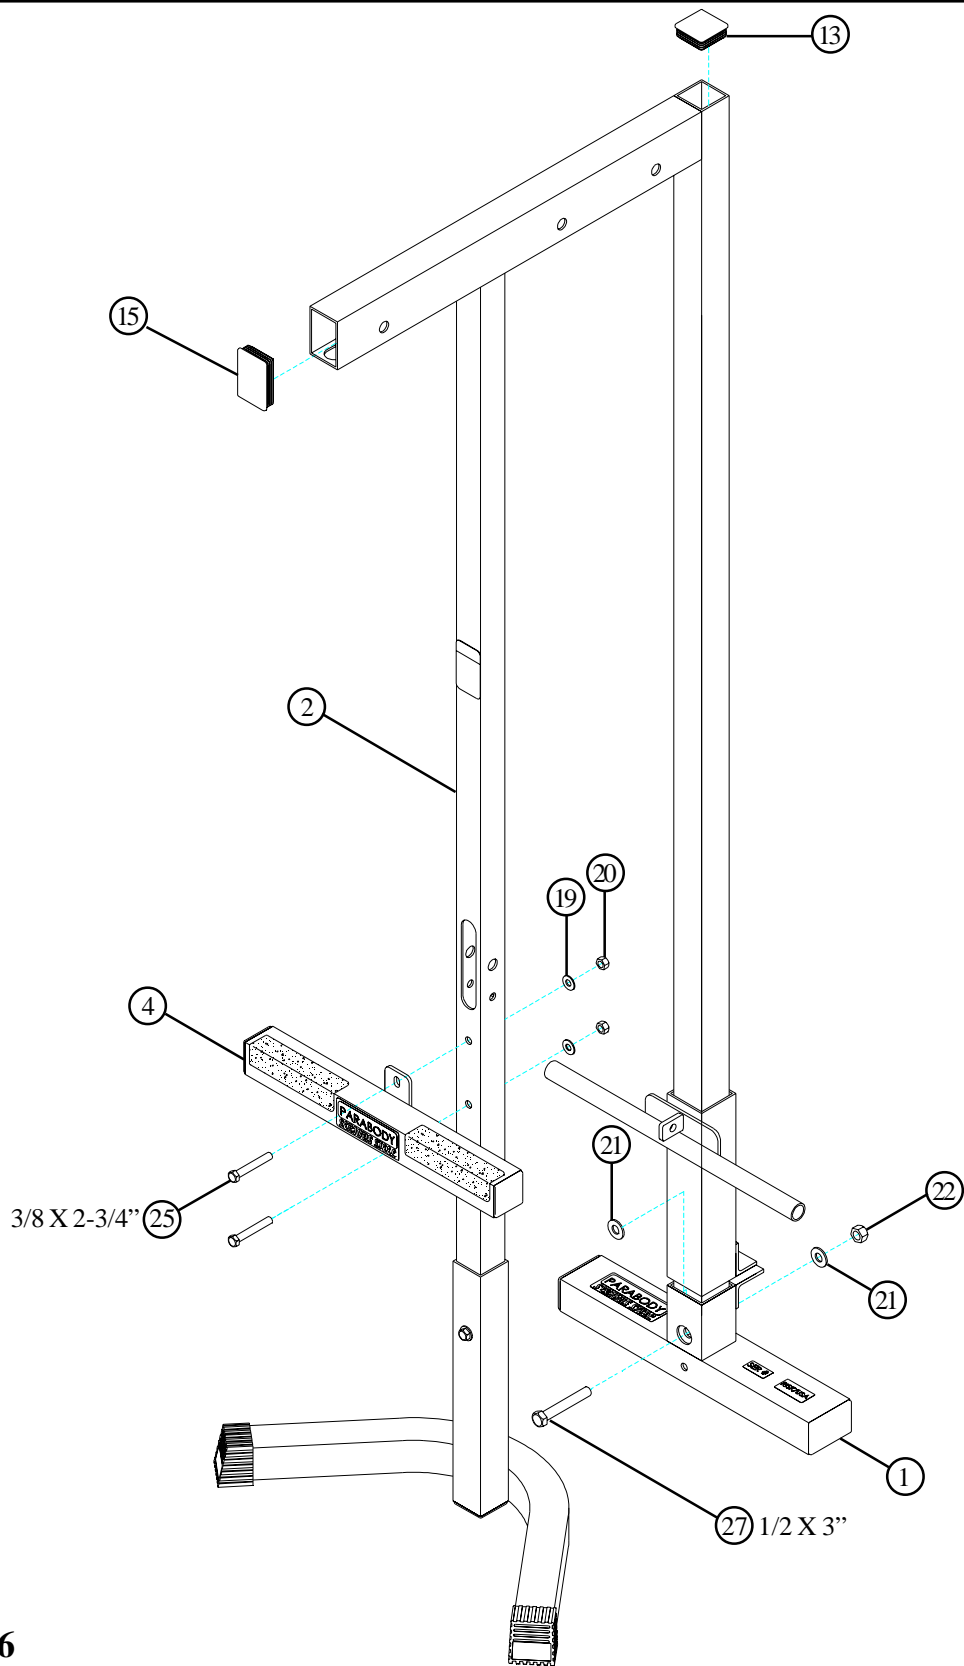

FIGURE 6
- **SECURELY** assemble the BASE (1) to the UPRIGHT (2) using one 1/2 X 3" BOLT (27), two 1/2" WASHERS (21) (slide front washer **INSIDE** of tube), and one 1/2" LOCK NUT (22). See FIGURE 6.
- Insert one 3 X 2" END CAP (15) and one 2" SQ. END CAP (13) into the ends of the UPRIGHT (2) as shown in FIGURE 6.
- **SECURELY** assemble the CROSS BRACE (4) to the UPRIGHT (2) using two 3/8 X 2-3/4" BOLTS (25), two 3/8" WASHERS (19), and two 3/8" LOCK NUTS (20). See FIGURE 6.